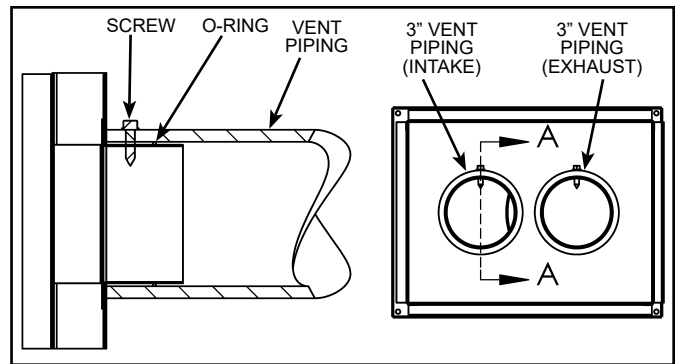

Figure 25.
2. Thoroughly inspect the vent termination for any damage (see Figure 25).
4. Drill $7/64$ " pilot holes for a #8 screw (see Figure 25). Take care not to damage the O-ring.
5. Secure the vent piping to the air box with screws (see Figure 25).